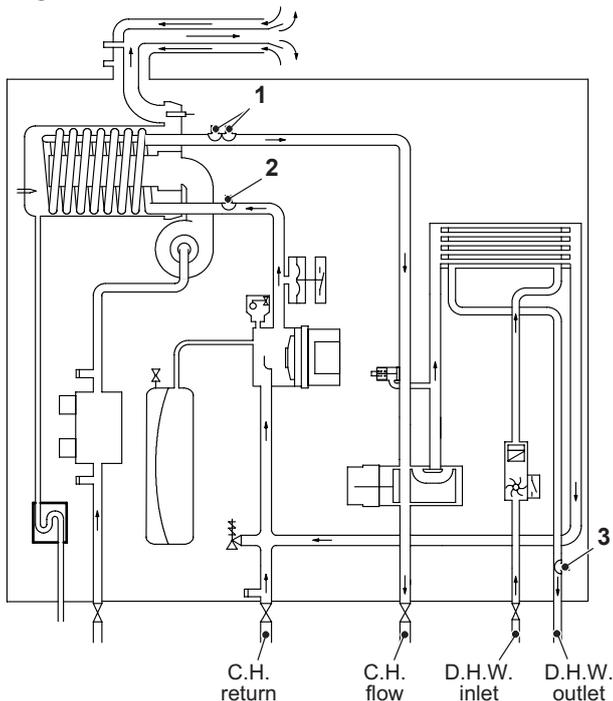
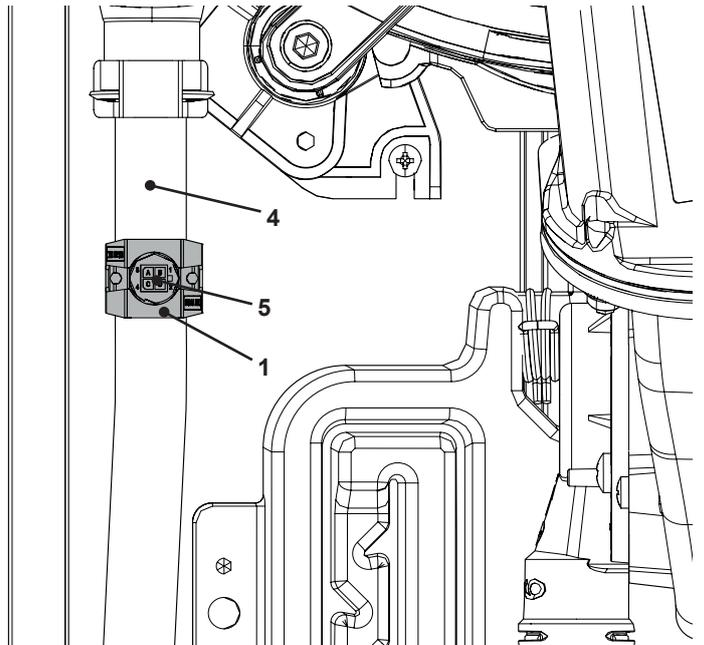
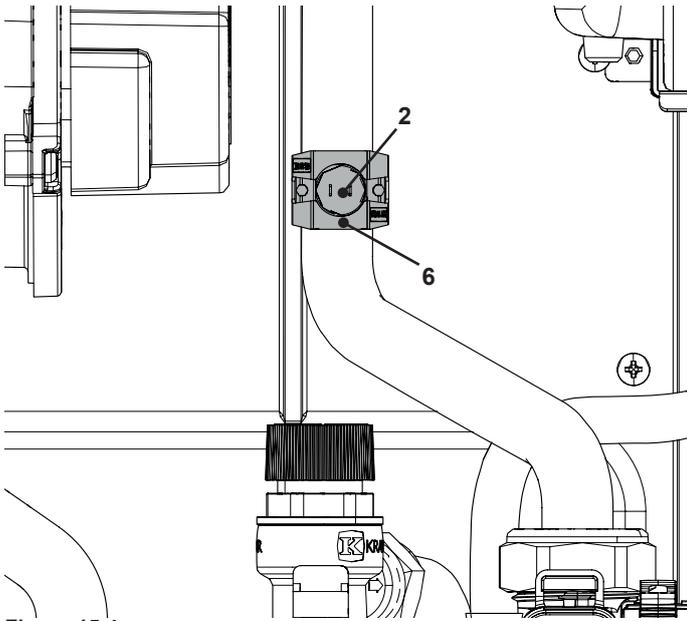
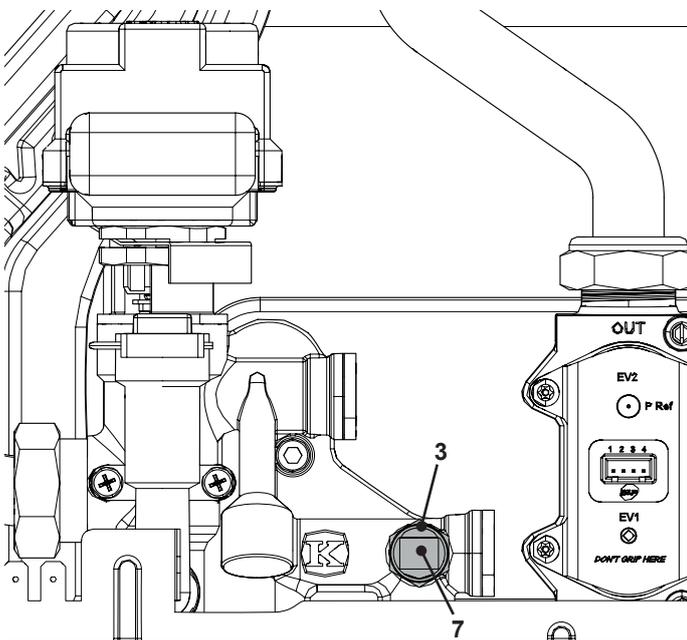

Figure 15.2
Figure 15.3
Figure 15.4
Figure 15.5
On the boiler there are three temperature probes. One on the output of the primary condensing heat exchanger (NTC heating delivery probe - NTC maximum temperature) "1" in Figure 15.2 and Figure 15.3, one on the return of the primary condensing heat exchanger (C.H. temperature return probe NTC) "2" in Figure 15.2 and Figure 15.4; one on the output of the D.H.W. heat exchanger (D.H.W. temperature probe NTC) "3" in Figure 15.2 and Figure 15.5.
- 2 Remove the electric connector "5" and the NTC probe "1" (Figure 15.3).
- 2 Remove the electric connector "2" and the NTC probe "6" (Figure 15.4).
- 3 Remove the electric connector "7" (Figure 15.5)